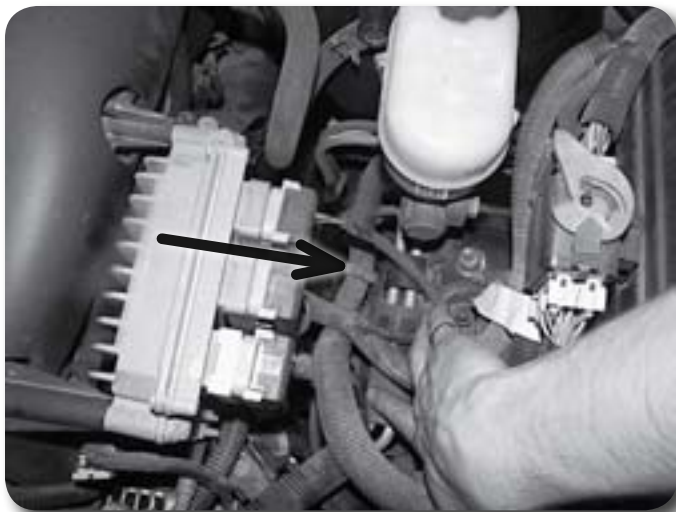

Figure 8
12. Disconnect wire harness **Figure 8** from retaining clip on the driver's side (middle of inner fender).